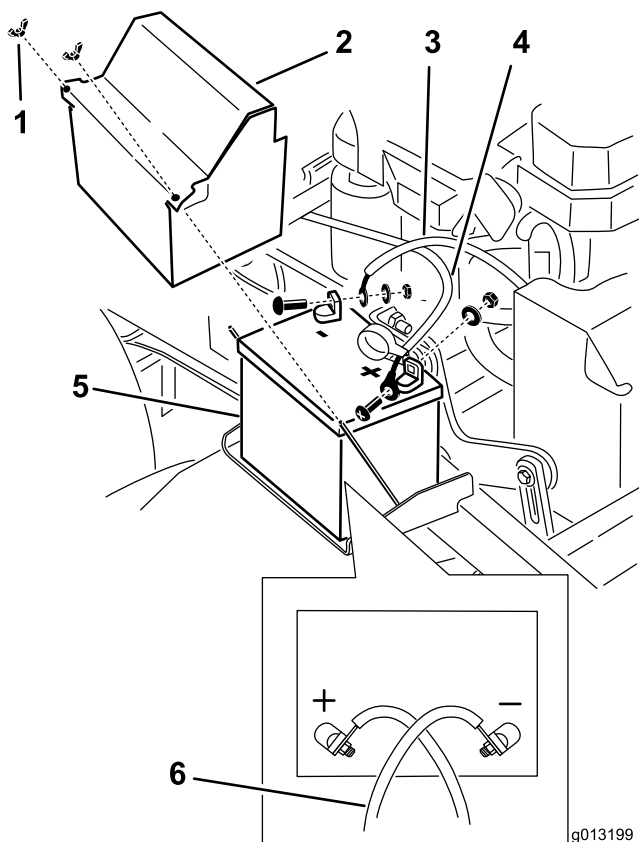

Figure 51
3. Disconnect the negative battery cable from the negative (-) battery terminal (Figure 51).
5. Remove the positive (red) battery cable (Figure 51).
6. Remove the battery hold down plate (Figure 51), and remove the battery.
1. Place the battery onto the machine (Figure 51).
3. Install the positive (red) battery cable to positive (+) battery terminal with a nut, a washer, and a bolt (Figure 51). Slide the rubber cover over the post.
4. Install the negative battery cable and ground wire to the negative (-) battery terminal with a nut, a washer, and a bolt (Figure 51).
Note: The battery cables will crossover each other when they are correctly installed (Figure 51).